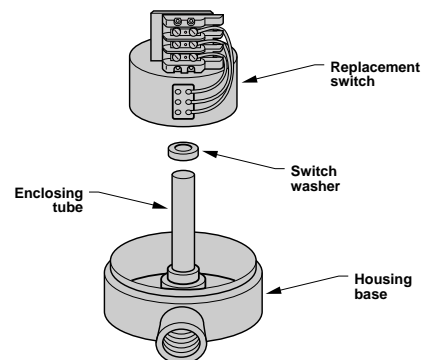

Figure 5 – Replacement switch
4. Loosen the clamp screw at the top of the switch by turning it counterclockwise. See **Figure 5**.
- a. **Single switches:** Slide the new HS switch over the enclosing tube until it rests on top of the switch washer. See **Figure 5**.